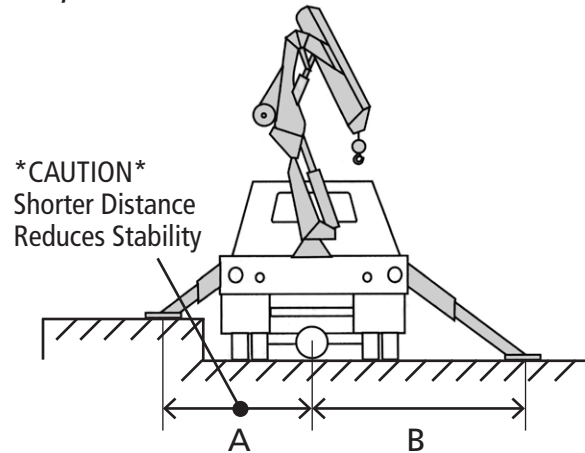

Figure 7.9: Setting up stabilizers on uneven ground.
- Ensure all limbs are kept well away from the danger areas to prevent crushing or pinching when deploying or retracting stabilizers (Figure 7.9).